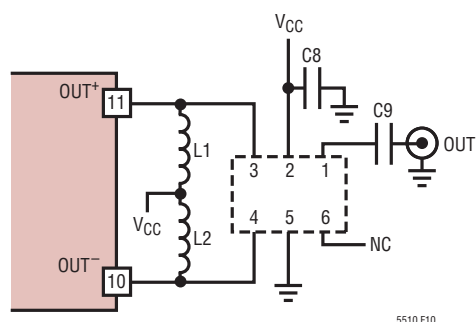

Figure 10. HF Board Output Schematic
The high frequency (HF) output evaluation board (DC1983A) shown in Figure 3a is designed to use multilayer chip hybrid baluns at the output. This board is intended for frequencies above about 800MHz (limited by balun availability). These baluns deliver good performance and are smaller than wire-wound baluns. The board is configured for the matching topology shown in Figure 10. Inductors L1 and L2 are used to tune out the parasitic output capacitance, while the transformer provides differential to single-ended conversion and impedance transformation. The DC bias to the mixer core can be applied through the matching inductors. Each pin draws approximately 32mA of DC supply current.